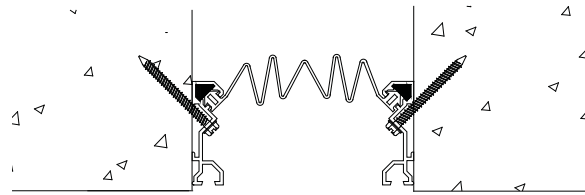

Figure 11
STEP 18. Beginning from the bottom of the joint and leaving the 3" of excess back seal at the bottom of the joint, insert the back seal's arrows into the corresponding base member back seal retainer track. Use a wall paper roller (by others, 1/2" width) to roll the arrows into the tracks continuously along the length of the back seal (see Figure 11).